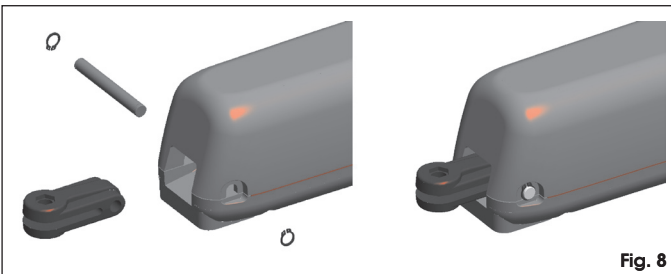

Fig. 8
2. Assemble the rear fitting to the operator as shown in Fig.8.